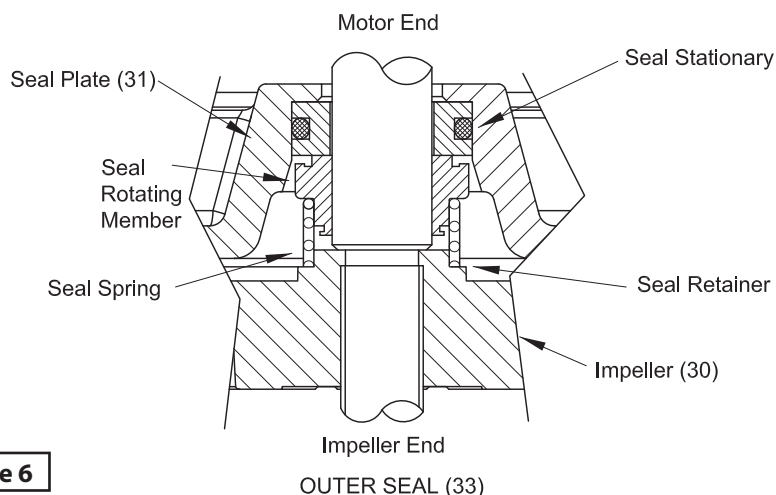

Figure 6
Outer Seal - Clean and oil stationary seal cavity in seal plate (31). Slide seal guide tool over motor shaft. Lightly oil (**Do not use grease**) outer surface of seal's (33) stationary member. Press stationary firmly into seal plate (31) using a seal pusher tool. Be sure the stationary member is in straight. Nothing but the seal tool is to come in contact with seal face. (See Figure 6)